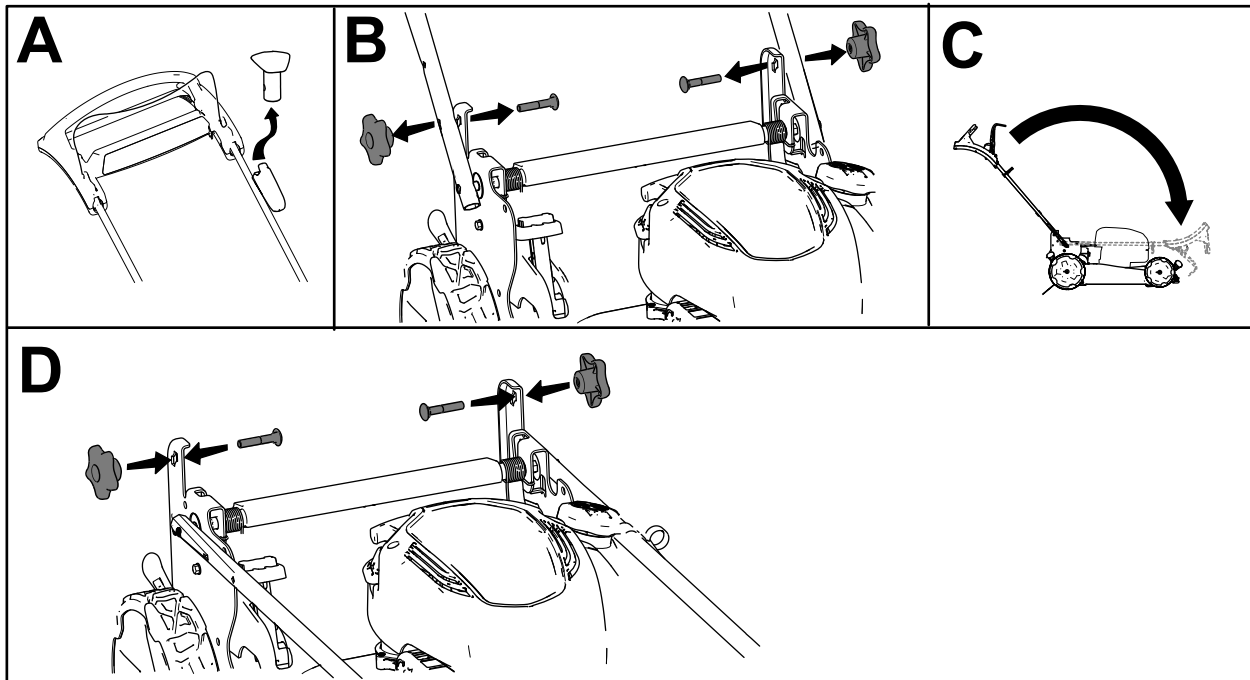

Figure 21
1. Remove the electric-start button (if equipped) as shown in A of Figure 21.
2. Remove and save the 2 handle knobs and 2 carriage bolts from the handle brackets (B of Figure 21).
3. Fold the handle by rotating it forward (C of Figure 21).
4. Loosely install the handle knobs and carriage bolts on the handle brackets (D of Figure 21).